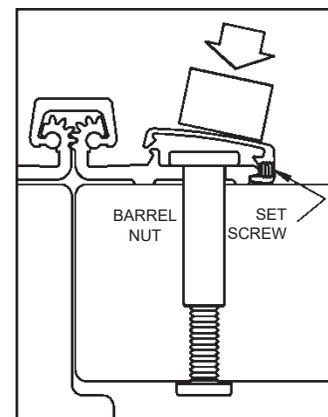

Fig. 7
- The cover of the hinge frame leaf is non-removable. Start pressing the cover on the hinge top end (aligning the cover top edge with the hinge top edge) and slowly tap with a rubber hammer until the full cover is snapped into place. Ensure hammer does not damage the surface of the cover. Refer to Figure 7.